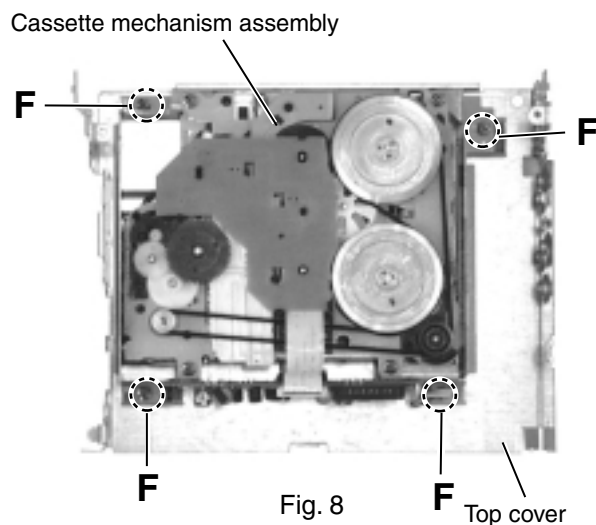

Fig. 8
■ Removing the Cassette mechanism assembly (See Fig.8)